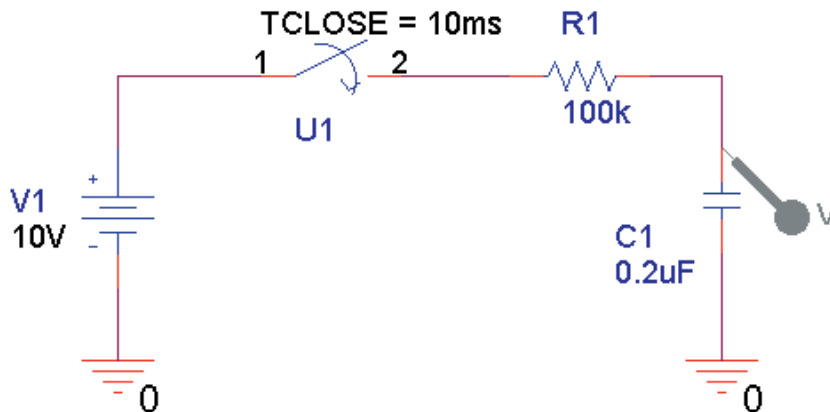

FIGURE A-3
9. Place a voltage probe as shown in the circuit of Figure A-3 by clicking on the **Voltage Level** tool and dragging it to the location shown.